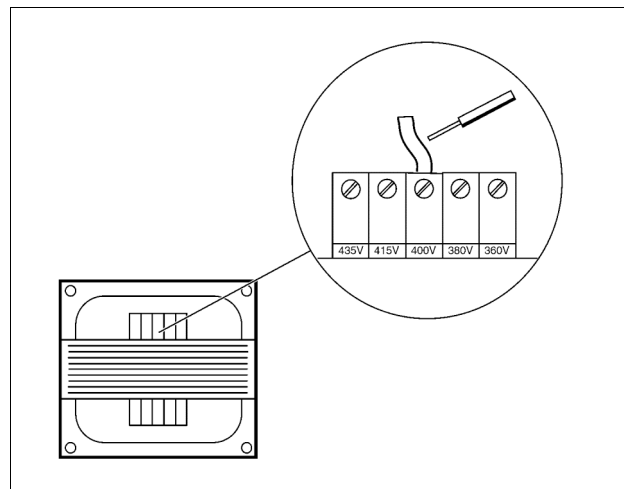

Fig. 12
The control-power transformer is factory-preset to the rated voltage. However, practice has shown that the actual supply voltage often differs from this value. In order to adjust the unit to the local conditions, the setting of the control-power transformer must be checked by measuring the control-power transformer output voltages during under load operation and, if required, re-set. Several tapping points are provided for this purpose (see circuit diagram). Fig. 12 illustrates an example.
- Check the setting of the control-power transformer (see also chapter 6.3). (Fig. 12)